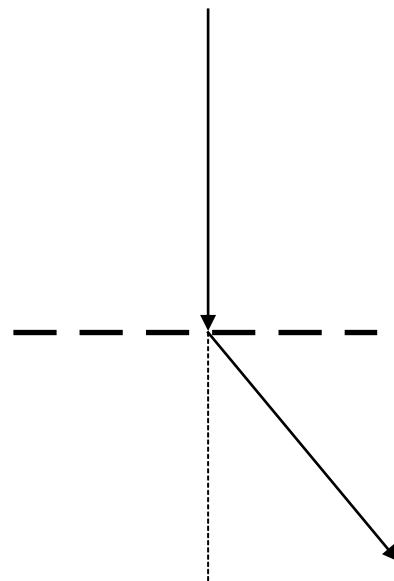

Fig. 2: wavelength with the grid
15. Keeping the stage blocked, place the diffraction grid so that it is perpendicular to the optical axis and rotate slowly the telescope anticlockwise (or clockwise) until you identify the spectral lines of higher order (figure 2).